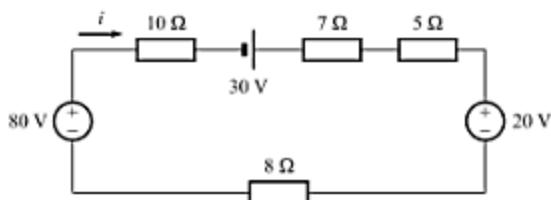

Fig. A-58
- A-9. Determine the current *i* and the power delivered by the 80-V source in the circuit of Fig. A-58. [Ans. $3 \text{ A}, 240 \text{ W}$]